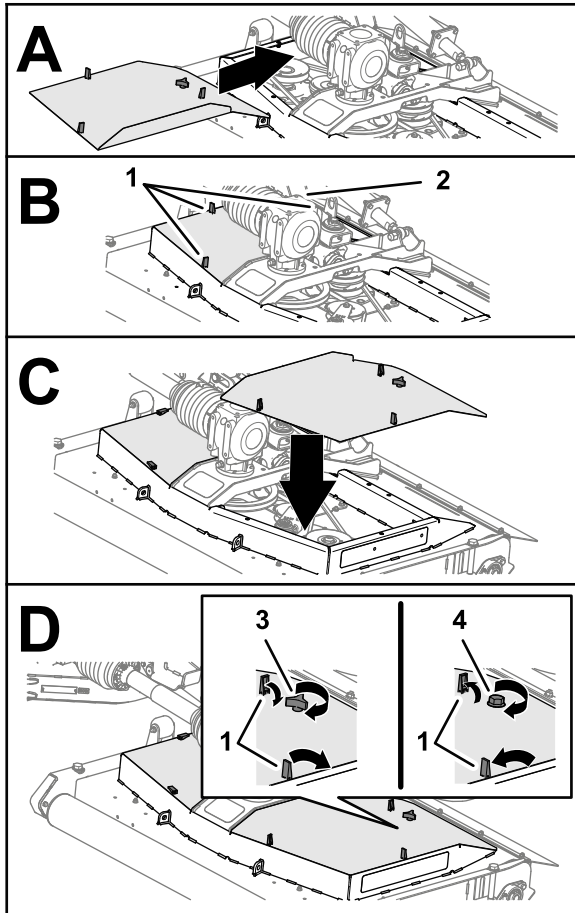

Figure 47
1. Align the latches of the mower-deck cover with the holes in the mower deck (Figure 47).
2. Assemble the deck cover to the mower deck (Figure 47).
3. Secure the cover (Figure 47) as follows:
4. Secure the 3 latches of the cover to the mower deck (Figure 47).
5. Repeat steps 1 through 4 for the other covers that you removed (Figure 47).